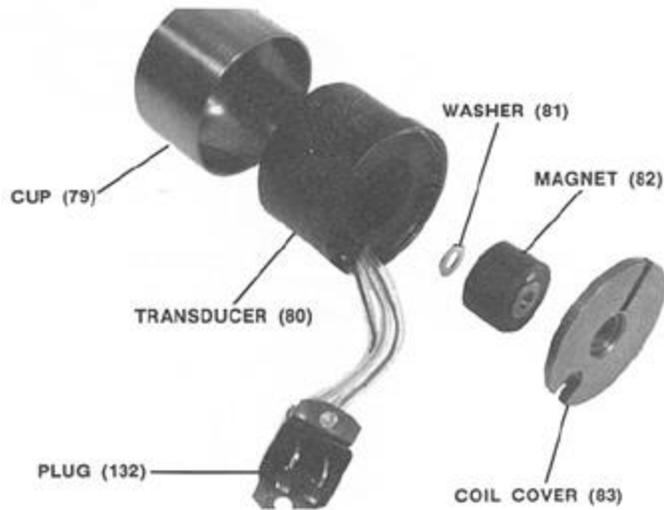

Figure 5-27. Transducer Parts Assembly
24. Assemble transducer cup (79), transducer (80), washer (81), magnet (82), and coil cover (83). See Figure 5-27. Note that plug (132) is attached to the transducer.